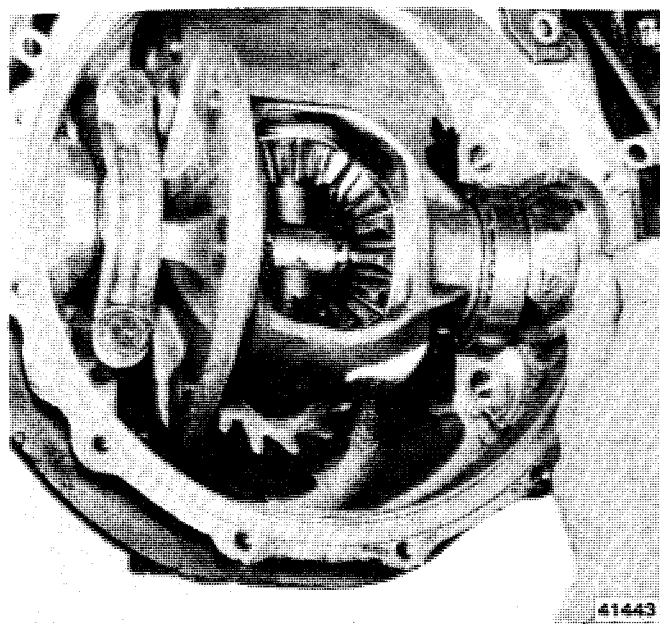

Fig. 2F-41 Adjusting Sideplay
(3) Install bearing caps and tighten bolts finger-tight. Mount dial indicator as shown in figure 2F-42.
(4) Using two screwdrivers, pry between shims and housing. Pry assembly to one side and zero indicator then pry assembly to opposite side and read indicator.